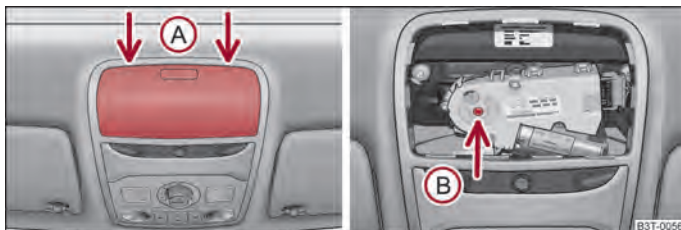

Fig. 33 Detail of the headliner/key-operated positioning point
You can close and/or open the panoramic sliding roof by hand if the system is defective. The manual control for the panoramic sliding roof is located underneath the cover of the electric drive, or underneath the glasses storage box, ⇒ fig. 33 - left, depending on the equipment fitted to your vehicle.
- Carefully insert a screwdriver, approximately 5 mm wide into the slot in the positions shown by the arrows (A) ⇒ fig. 33.
- Insert an Allen key, Group 4, up to the stop into the opening (B) and close or open the panoramic sliding roof.